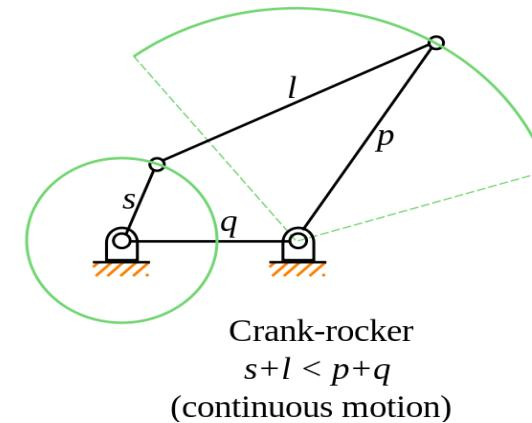

Figure 3
- Using a 4-bar Grashof crank-rocker-rocker linkage class I, assuming S = 3, L = 7, P = 6, Q = 5, Figure 3.